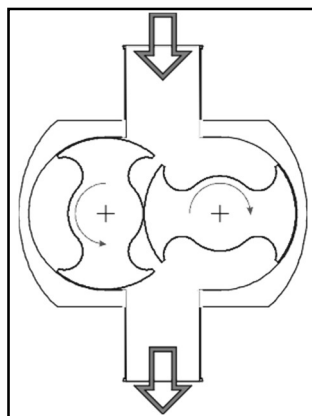

Figure 10.
- Motor is wired for correct direction of rotation - see Figure 10.